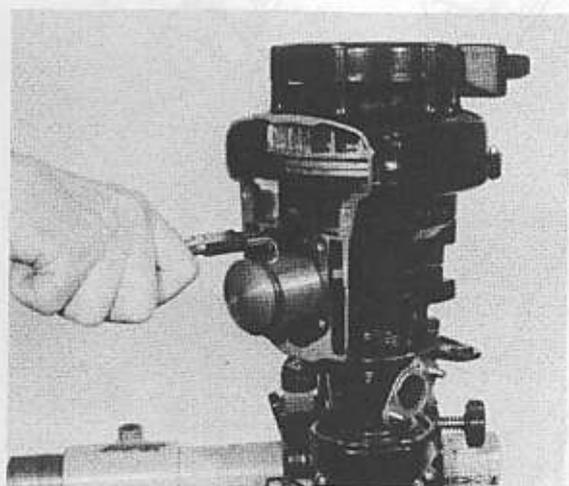

Fig. 18
4. Remove the two gudgeon pin circlips (Fig. 18).